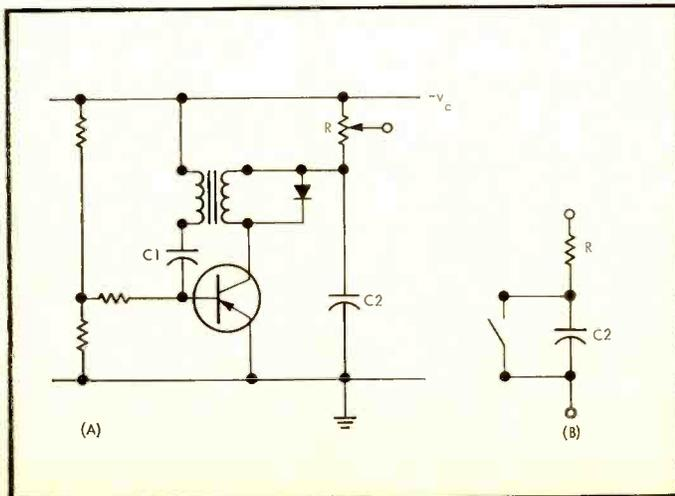

Fig. 8 (left). (A) Blocking oscillator which acts as if it were (B) a switch-RC circuit to produce a linear saw-tooth wave.
The simplest form of sawtooth generator is a blocking oscillator, with a typical circuit shown in (A) of Fig. 8. The transformer provides positive feedback and when the transistor starts to conduct it is driven into bottoming. The capacitor C₁ cannot maintain the necessary base current, however, and the current begins to fall, bringing the transistor out of bottoming and driving it to cut-off, with aid from the regeneration. In fact we must use the diode shown across the transformer, in order to prevent the cut-off action producing high peak collector voltages, and this gives us regeneration only for one direction of movement. Even so, the circuit can be taken as providing the switch-RC circuit shown in (B) of Fig. 8, in which the switch is self-driven. Provided that the switching period is short compared with the time-constant RC, this circuit will give a linear sawtooth.